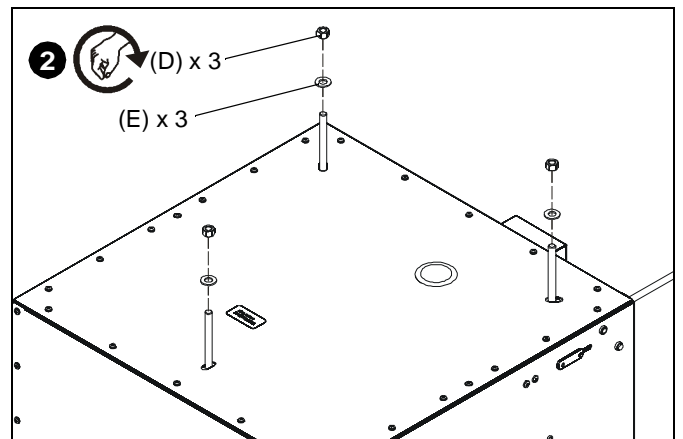

Figure 3
2. Install a 3/8" washer (E) and a 3/8-16" hex nut (D) over tap bolt. (See Figure 3)